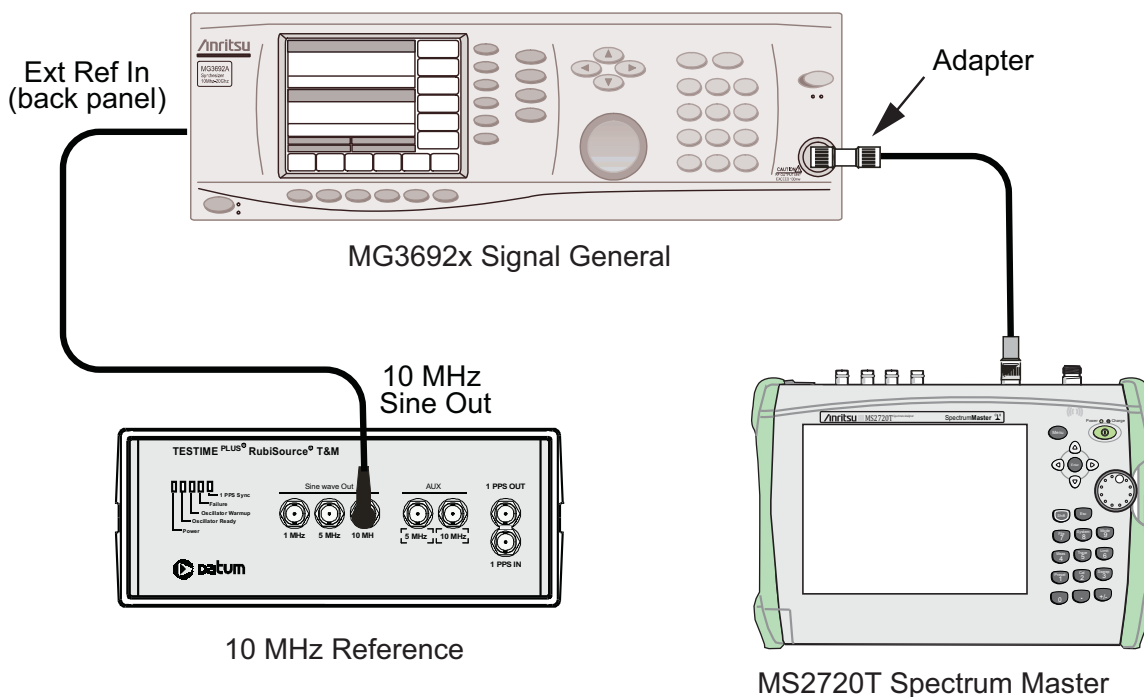

Figure 3-1. Frequency Accuracy Verification by Synthesized Signal Generator
2. Connect the output of the Synthesized Signal Generator to the Spectrum Analyzer RF In of the MS2720T, as shown in Figure 3-1.